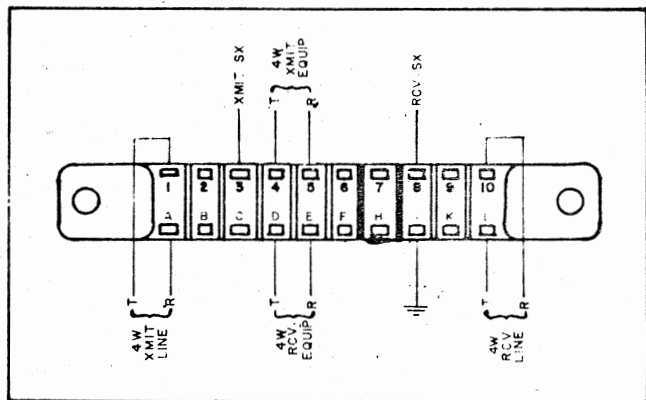

Fig. 7A
D. 787A: This is used in applications that where in addition to extending circuits through the terminating shelf on a 4-wire basis; plug in 89 type pads for setting the 4-wire levels and 600/900 ohm impedance matching transformers with balanced SX leads are required. See FIG. 7A and TABLE C for wiring information and FIG. 9D (schematic drawing). Also refer to paragraph 4.01 regarding procedure for inserting 89 type pads.
E. 787AV: This unit is the same as the 787A except that it includes adjustable T pads for setting the 4-wire levels. See FIG. 7A and TABLE C for wiring information and FIG. 9E (schematic drawing). Also refer to paragraph 4.02 for setting pad values.